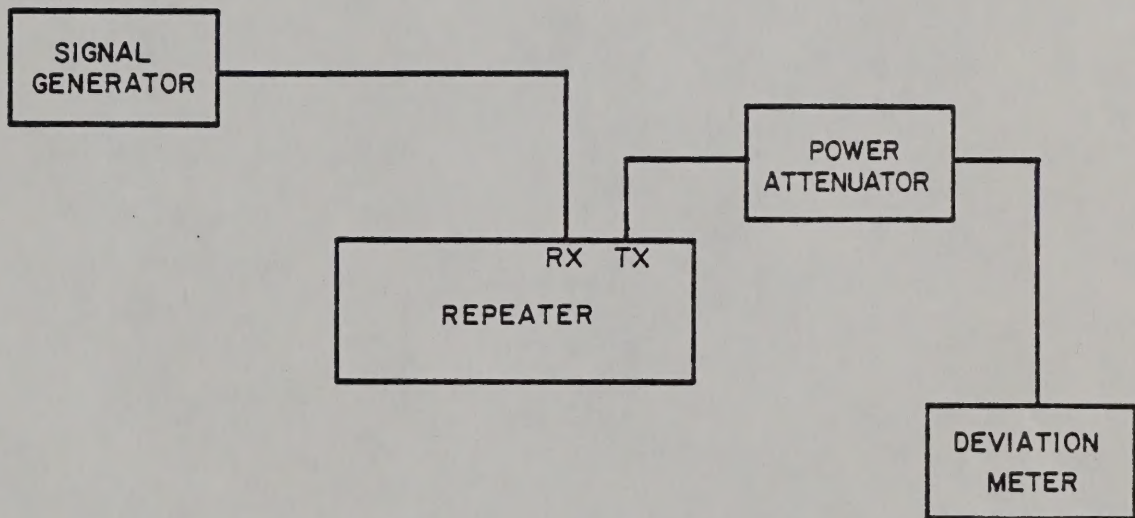

FIGURE 5
2. Hook-up test equipment as per Figure 5.